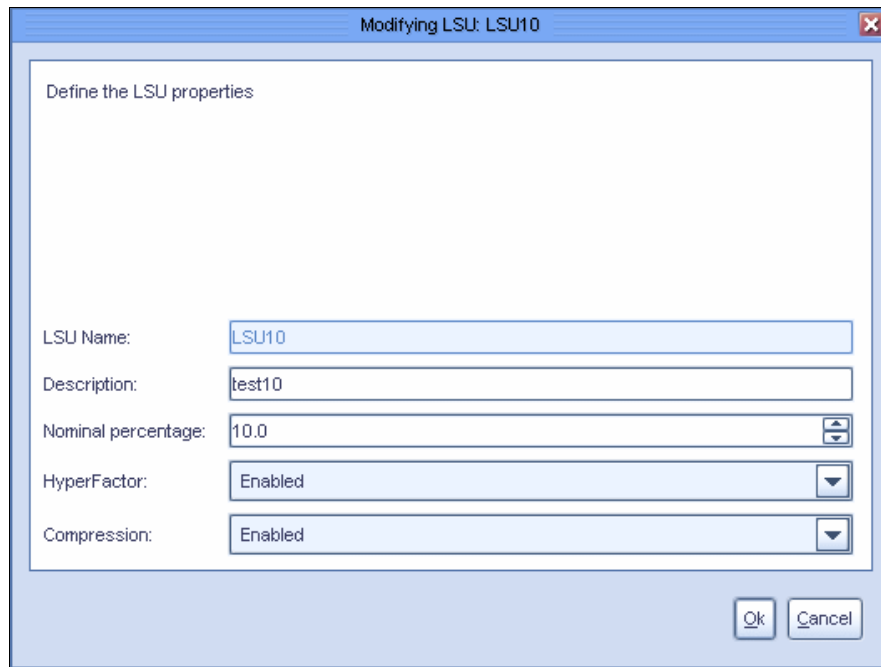

Figure 5-91 Modify LSU window
2. Highlight one of the LSUs to be modified by clicking once on the LSU name. Click **Modify** to change the LSU properties previously defined on the storage server. The Modifying an LSU window opens (Figure 5-91).